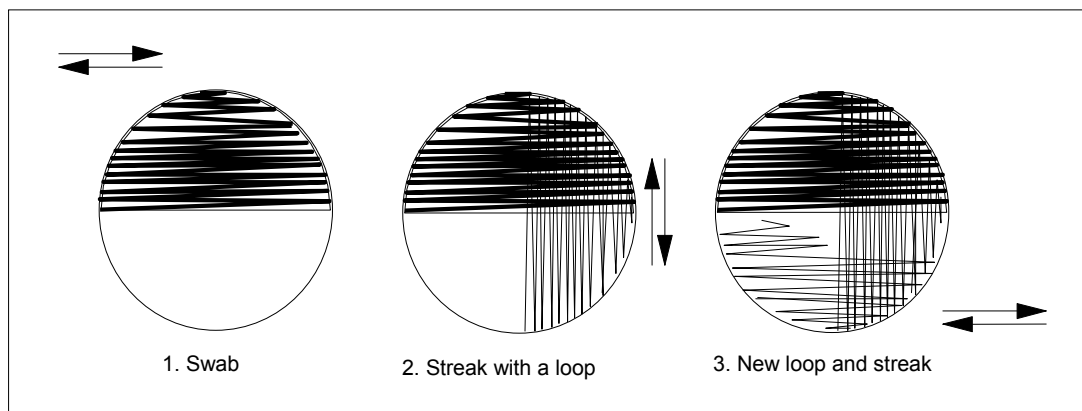

Fig. 15.1 Swab-streak technique
1. Spread the bead-bacteria complexes over one half of the plate with a sterile swab. This is to ensure the break-up of the bead-bacteria complexes. Dilute further by streaking with a loop. Always carry the loop back into the previously streaked quadrant several times to ensure that the beads are streaked into a fresh unstreaked quadrant. See *Fig. 15.1*.
The resuspended Dynabeads-bacteria complexes are now ready for plating. Transfer 50 µl of the resuspended bead-bacteria complexes from the 5th tube onto two *Listeria* plating media, one of which should be Palcam agar and plate by standard streaking with a loop or the swab-streak technique (Fig. 15.1). All inoculated plating media must be incubated at 37°C. The plates are read after 24 h and if necessary after 48 h for presumptive *Listeria* colonies. Total analysis time from sample receipt to presumptive results is 48 h.